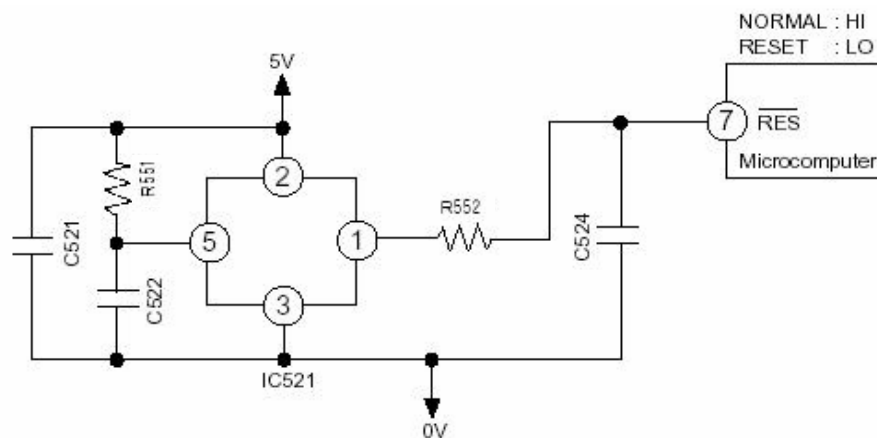

Fig. 1-1
- The micro computer monitors the frequency and adjusts the output pulse range of the pin (24) so as to keep the command speed.
1. The electrical parts for the outdoor unit is composed of two P.W.B (a power P.W.B. and main P.W.B.) and a harmonics improvement circuit as shown in Fig. 1-1.